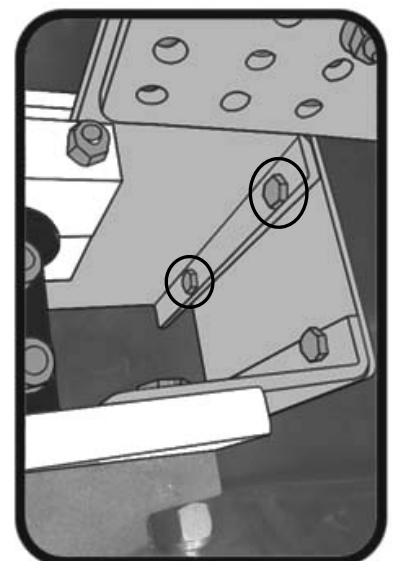

Fig. 4
Step 2: Use a wrench to loosen the four bolts (*2 front; 2 back*) located directly below the Motor Mounting Brackets. (**Fig. 4**) Side to side adjustments can now be made to the mechanism motor end.